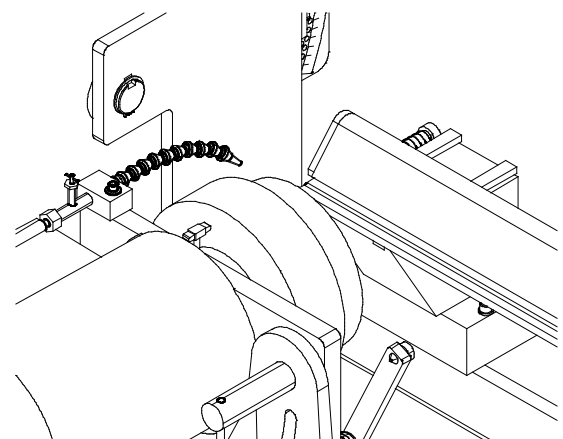

FIG. 41
3. Set the traverse knob to 10. Set the carriage traverse switch to ON. Traverse the carriage to the left until the contact area of the grinding wheel is about 1" beyond the area to be ground on the bedknife, and then turn the traverse knob to ZERO. Be prepared to STOP the traverse earlier if there is any interference between the grinding wheel and the bedknife/bedbar. See FIG. 41.